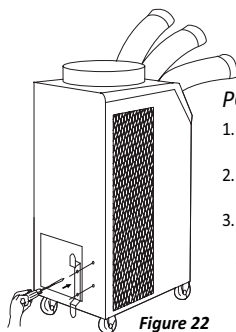

Figure 22
3. Use screws (enclosed inside of accessory box with cord holder) to install the cord holder on the air conditioner as shown in Figure 22.